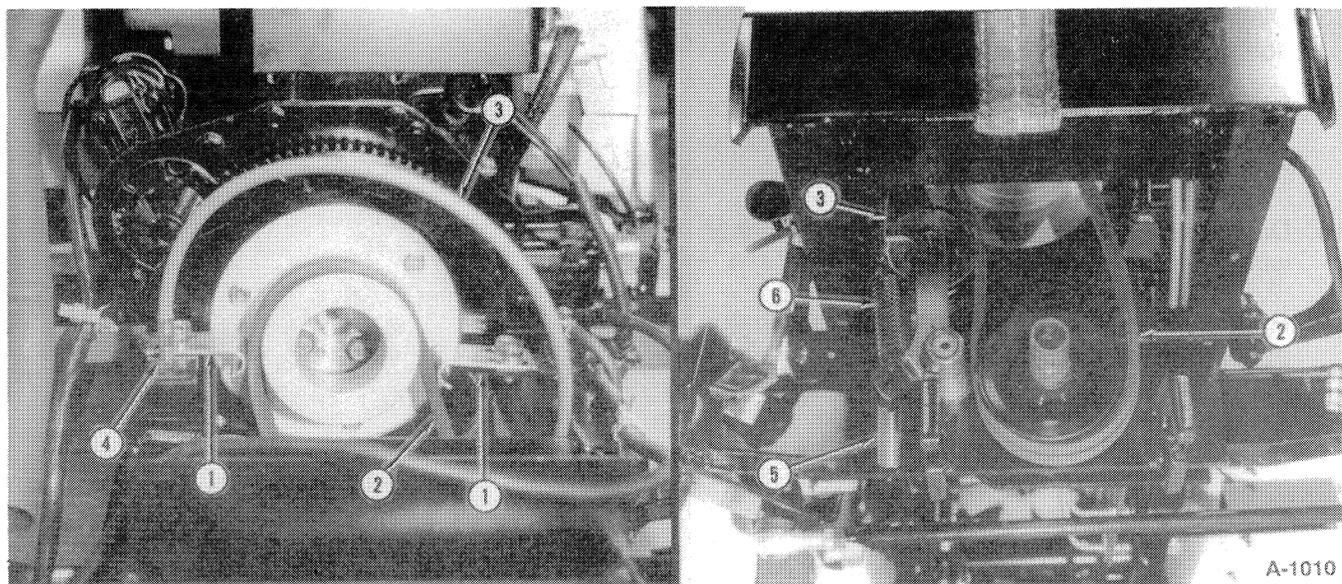

FIGURE 1-16
- Loosen the belt guide bolts and slide the guides, 1, away from the belts, 3, Figure 1-16.
- Loosen the PTO control cable locknut, 4, Figure 1-16, and unscrew the locknut to allow maximum slack in the cable and conduit assembly.
- Disconnect the PTO cable from the tension spring, 6, Figure 1-16.